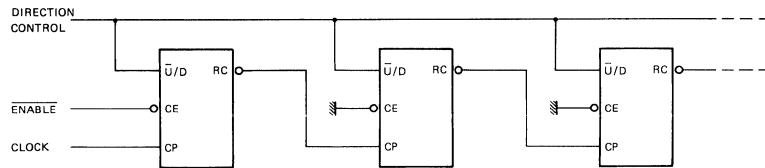
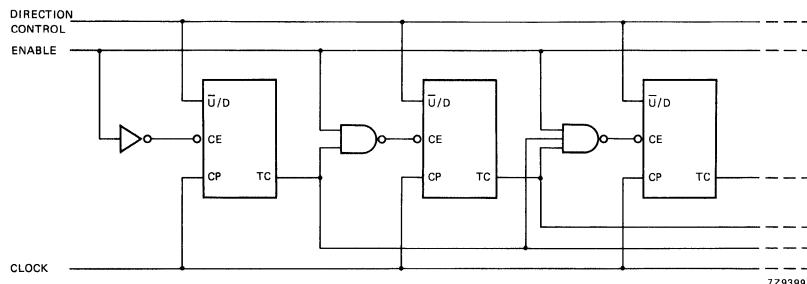

Fig. 5 N-stage ripple counter using ripple clock.
Fig. 7 Synchronous n-stage counter with parallel gated carry/borrow.
Overflow/underflow indications are provided by two types of outputs, the terminal count (TC) and ripple clock ( $\bar{RC}$ ). The TC output is normally LOW and goes HIGH when a circuit reaches zero in the count-down mode or reaches "15" in the count-up-mode. The TC output will remain HIGH until a state change occurs, either by counting or presetting, or until  $\bar{UD}$  is changed. Do not use the TC output as a clock signal because it is subject to decoding spikes. The TC signal is used internally to enable the  $\bar{RC}$  output. When TC is HIGH and  $\bar{CE}$  is LOW, the  $\bar{RC}$  output follows the clock pulse (CP). This feature simplifies the design of multistage counters as shown in Figs 5 and 6.
In Fig. 5, each  $\bar{RC}$  output is used as the clock input to the next higher stage. It is only necessary to inhibit the first stage to prevent counting in all stages, since a HIGH on  $\bar{CE}$  inhibits the  $\bar{RC}$  output pulse as indicated in the function table. The timing skew between state changes in the first and last stages is represented by the cumulative delay of the clock as it ripples through the preceding stages. This can be a disadvantage of this configuration in some applications.
In Fig. 7, the configuration shown avoids ripple delays and their associated restrictions. Combining the TC signals from all the preceding stages forms the  $\bar{CE}$  input for a given stage. An enable must be included in each carry gate in order to inhibit counting. The TC output of a given stage is not affected by its own  $\bar{CE}$  signal therefore the simple inhibit scheme of Figs 5 and 6 does not apply.